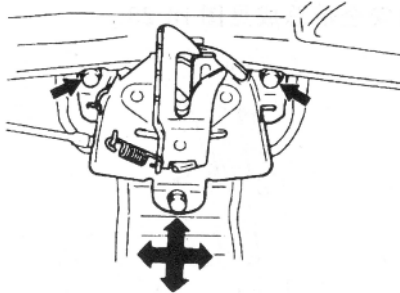

Fig.18-25
③ Adjust meshing between bonnet latch and bonnet striker (see Fig.18-25)